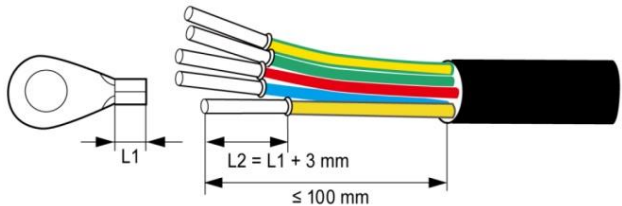

Fig 5.6 Crimp cable terminal
(1) Connect the four wires of the three-phase public power grid L1, L2, L3and N to the AC connector interface according to Table 5-1, and connect the grounding wire to the grounding point on the outside of the chassis, and ensure that the conductors are not exposed and crimped firmly , As shown in Fig 5.6;